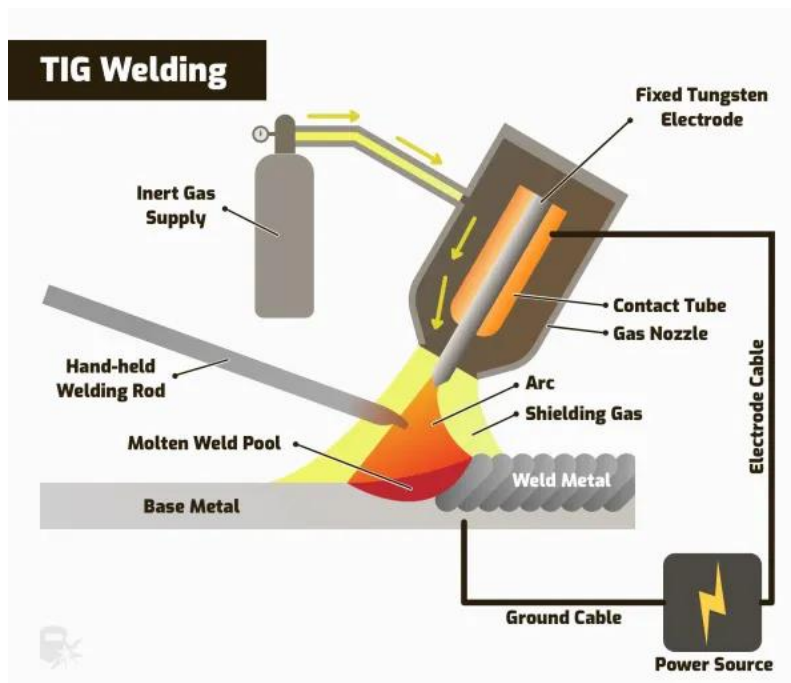

Figure 1: How TIG welding works
The flow apparatus used for this assignment was a TIG welding machine. This apparatus includes several components, all of which are outlined in figure 1 below.
The technical name for TIG welding is GTAW – Gas Tungsten Arc Welding. This is a welding process that melts and joins metals by heating them with an arc generated between a non-consumable tungsten electrode and the weld metal¹, as shown in figure 1 above. A direct current (DC) power supply is used to generate large amounts of electrical energy. This electrical energy in turn produces immense amounts of heat in the surrounding air and metal as it flows from the electrode to the weld metal. A shielding gas, commonly argon, is released from the pink ceramic cup while the user is welding. This shielding gas is needed to prevent the weld metal and the electrode from oxidizing by the oxygen in the air. An inert gas blanket is formed in and around the arc, and effectively prevents any oxidation from damaging the weld.